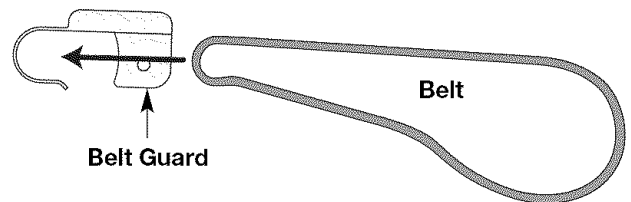

Fig. 40
9. Insert a new belt into the belt guard (Fig. 40).